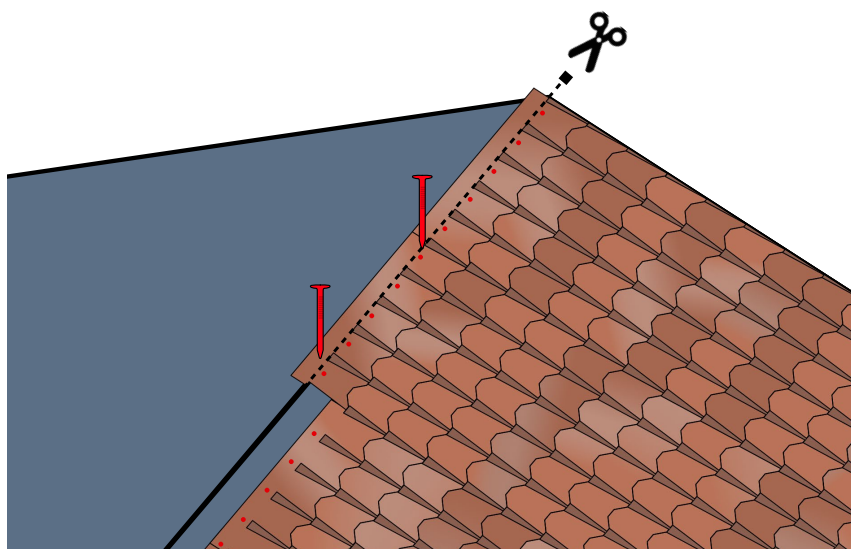

Fig. 13 - Shingles installation at the ridge
- If the top part of the Master Coppo shingle extends beyond the ridge line, cut the excess part of the shingle along the ridge line. - Fig. 13.